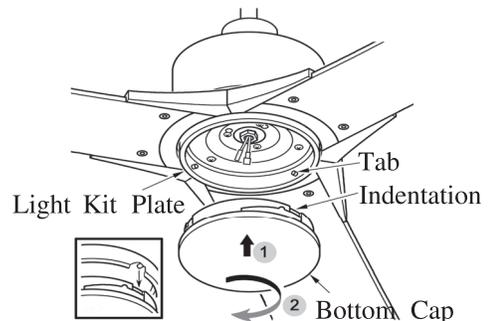

FIG.15
3. Line up slot in bottom cap with tab on light kit plate and turn clockwise until it locks in place and is firm. (See Fig.15)